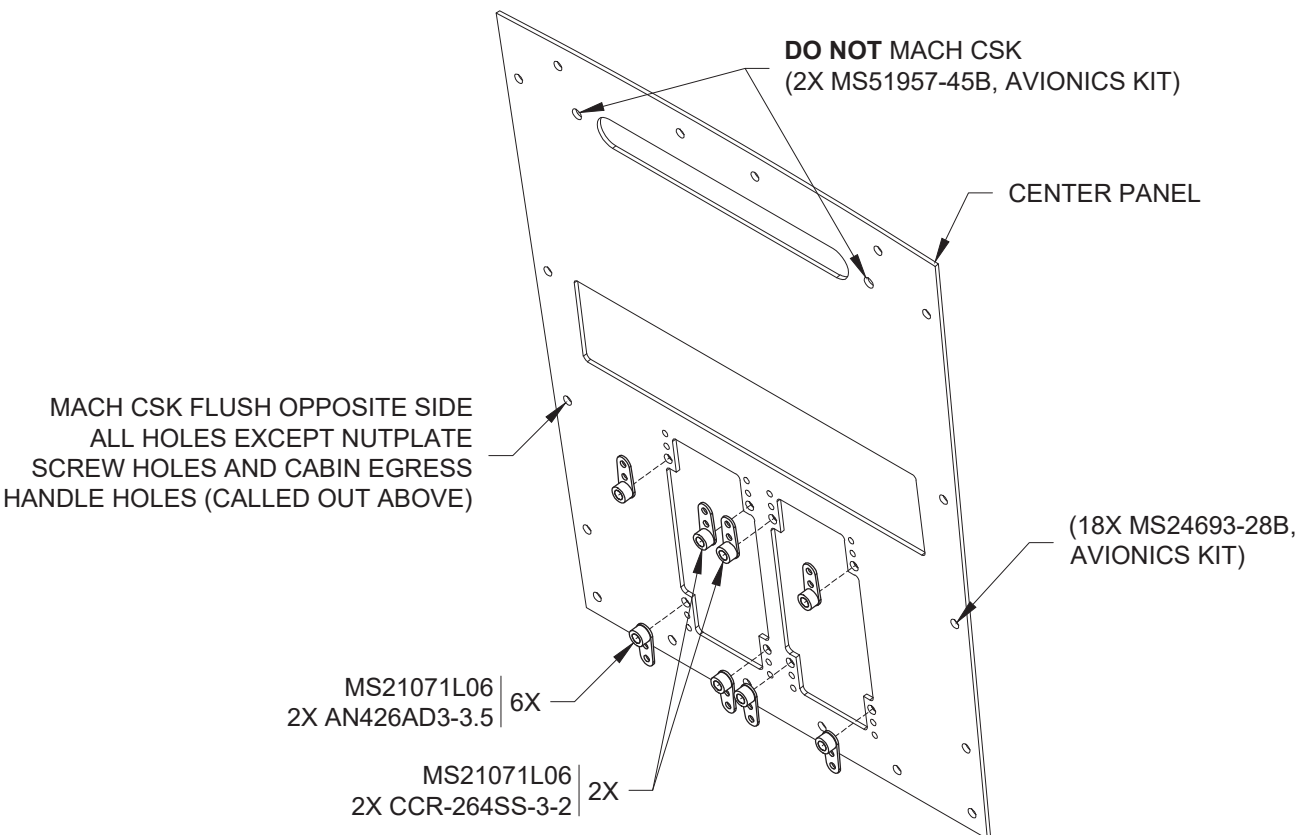

FIGURE 1: PREP THE CENTER INSTRUMENT PANEL
Step 3: Rivet nutplates to the center panel as shown in Figure 1.
Step 5: Re-Install the center panel using the screws provided in the Avionics Kit. See hardware call-outs in Figure 1.